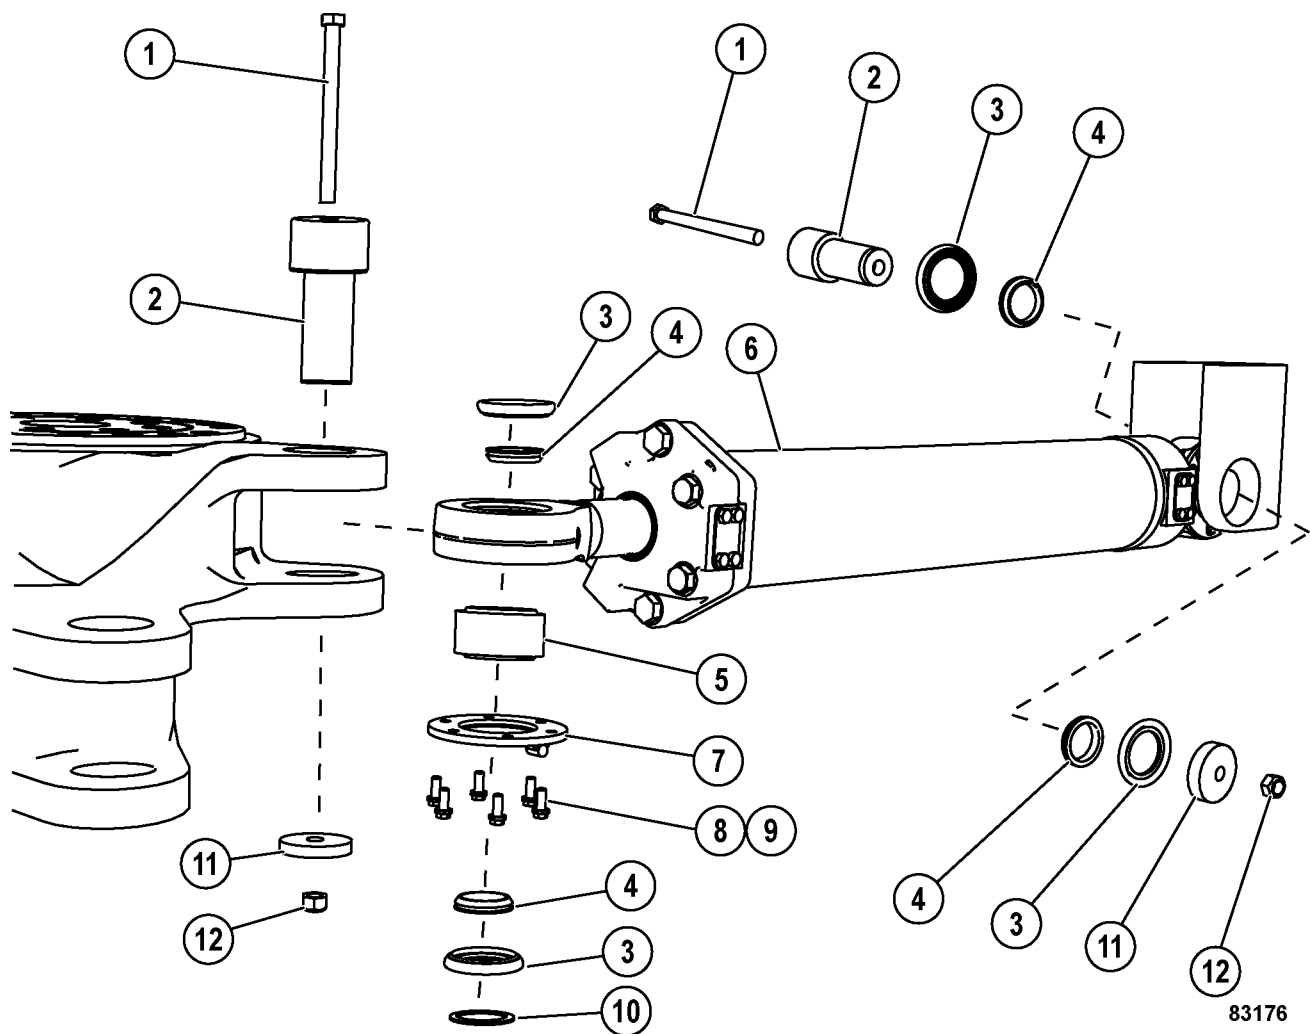

FIGURE 3-11. STEERING CYLINDER AND TIE ROD INSTALLATION
4. Remove locknuts (12, Figure 3-11), retainers (11), and cap screws (1) from both ends of steering cylinder.
6. Remove pins (2) from each end of the cylinder and move them to a clean work area. Bearing spacers (4) will be free when the pin is removed. **Ensure the bearing spacers do not drop out and become damaged when removing the pin.**
8. Remove seals (3), spacers (4) and washer (10).
NOTE: Ensure anti-rotation retainer (7, Figure 3-11) is installed facing downwards.
1. Remove cap screws (8, Figure 3-11) and lockwashers (9). Remove bearing retainer (7).
2. Press bearing (5) out of the bore in the steering cylinder or tie rod end.
4. Install anti-rotation retainers (7) with cap screws and lockwashers. Tighten the cap screws to standard torque.